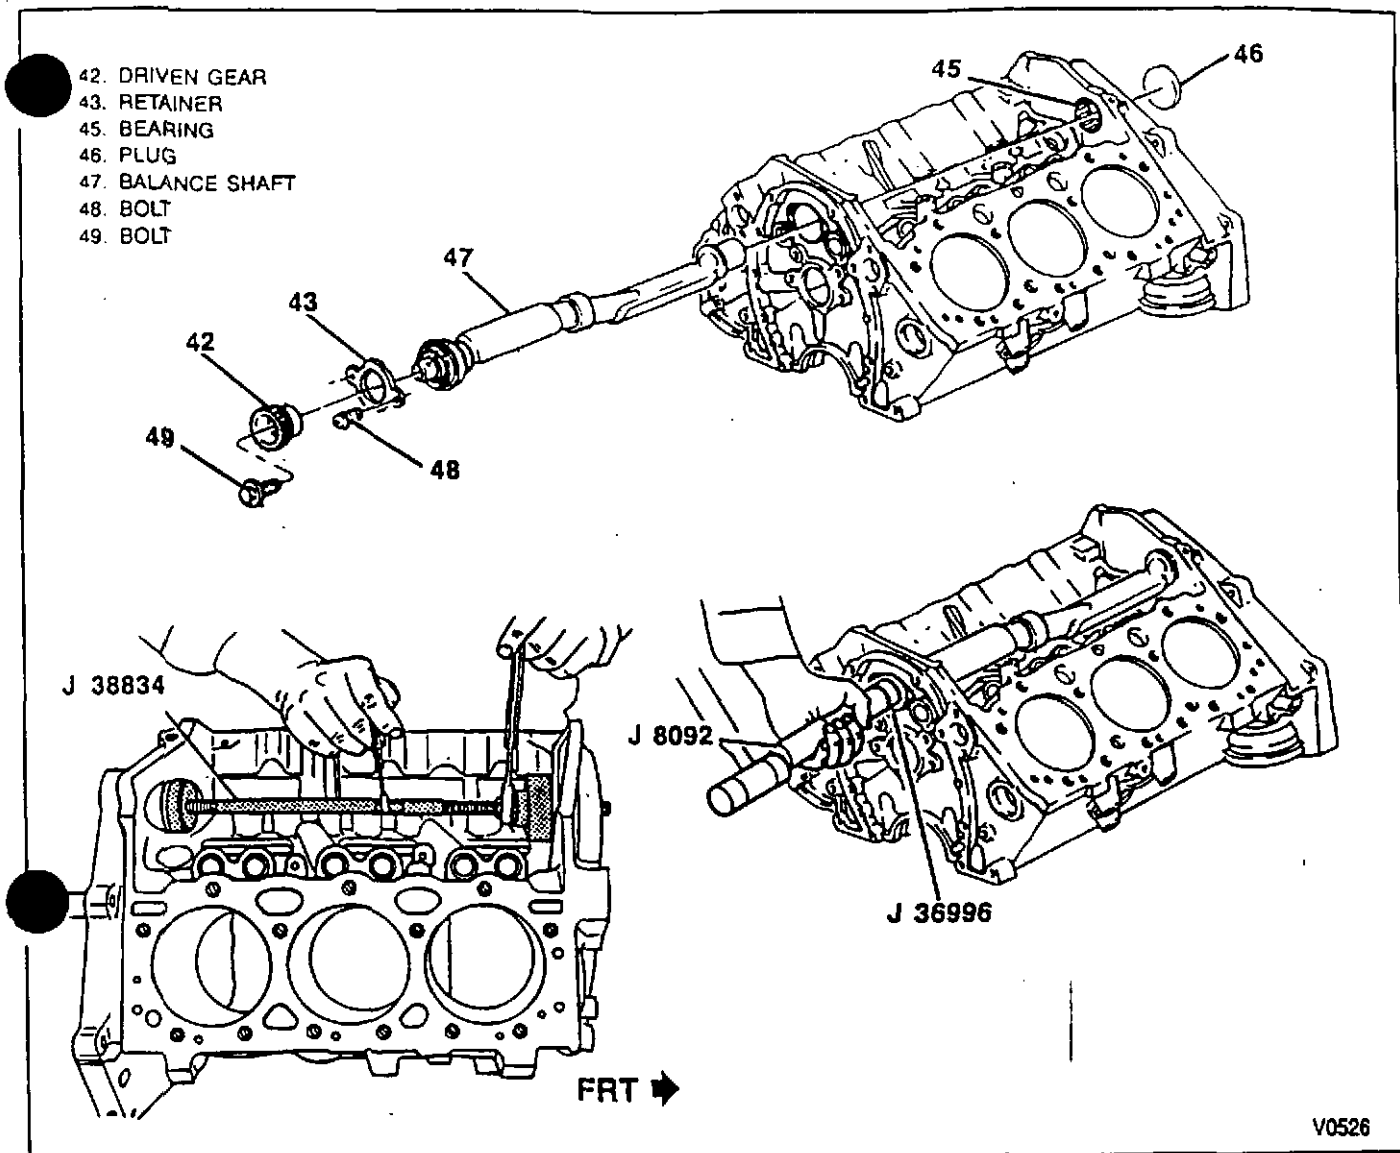

Figure 36—Installing Balance Shaft and Components
Install or Connect (Figures 36 and 37)
1. Balance shaft rear bearing (45) using J 38834 (figure 36).
2. Balance shaft (47) into block using J 36996 and J 8092.
3. Install balance shaft bearing retainer (43) and bolts (48).